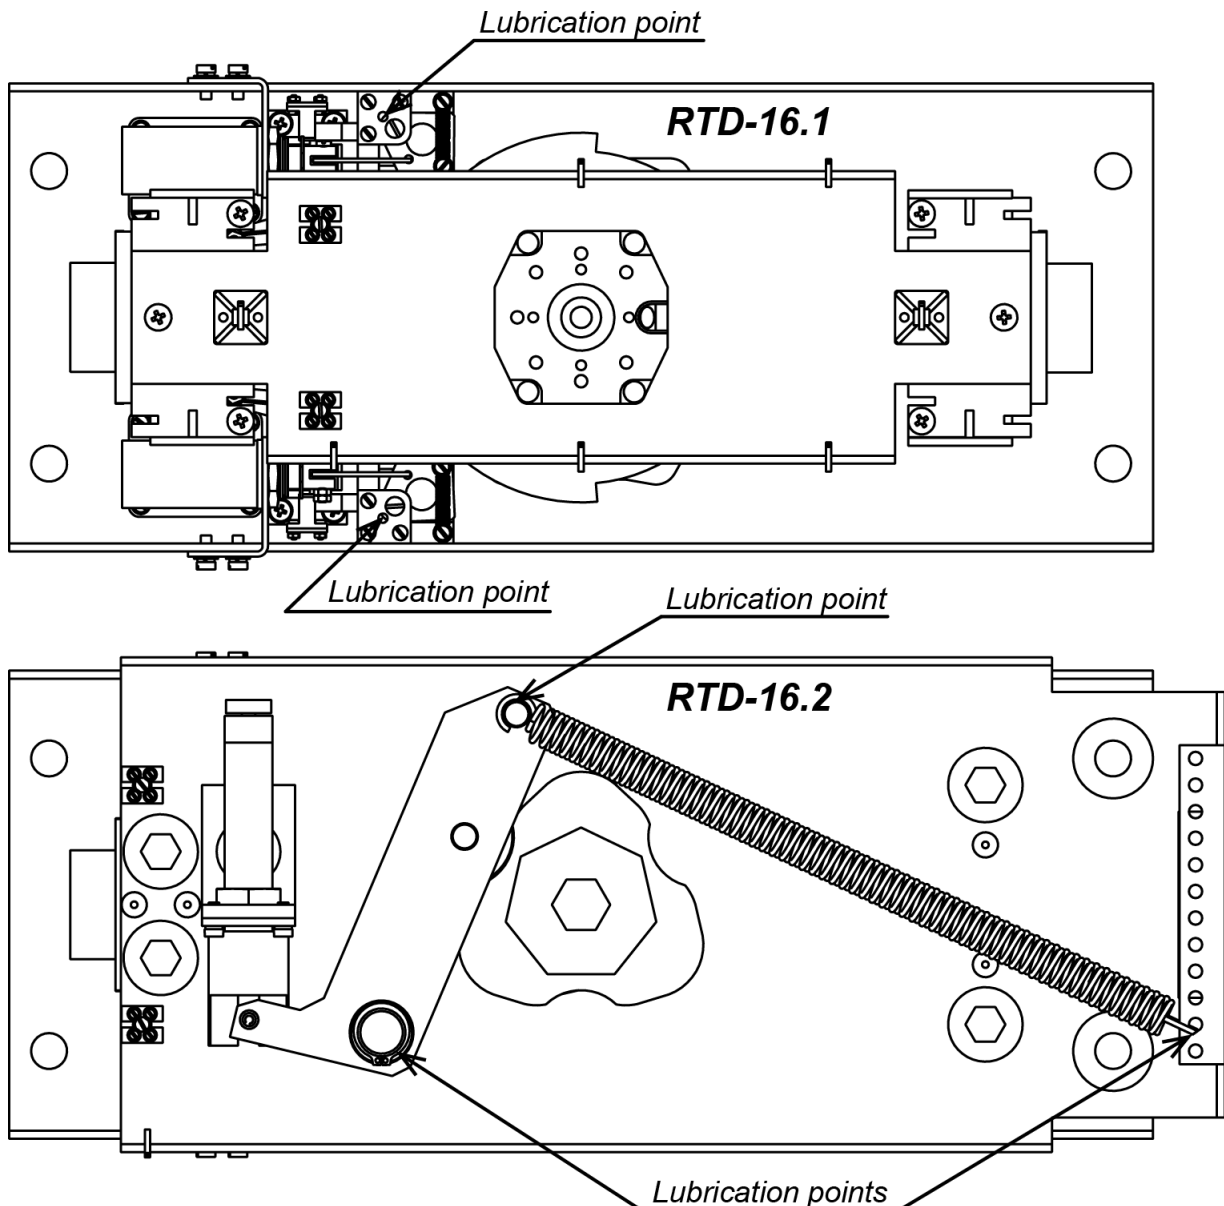

Figure 24. Operative device installed in the top channel, with the indication of lubrication points; the view from above
2. Take off the cover (9) from the top channel (8) (see Sect. 6).
6. Lubricate with machine oil type I-20 the parts of the operating mechanism in accordance with Fig. 24 (it is allowed to use aerosol silicone lubricants for low temperatures).
10. For the maintenance of the bottom rotation unit (3) dismantle the rotor (the operation should be performed by two persons!):